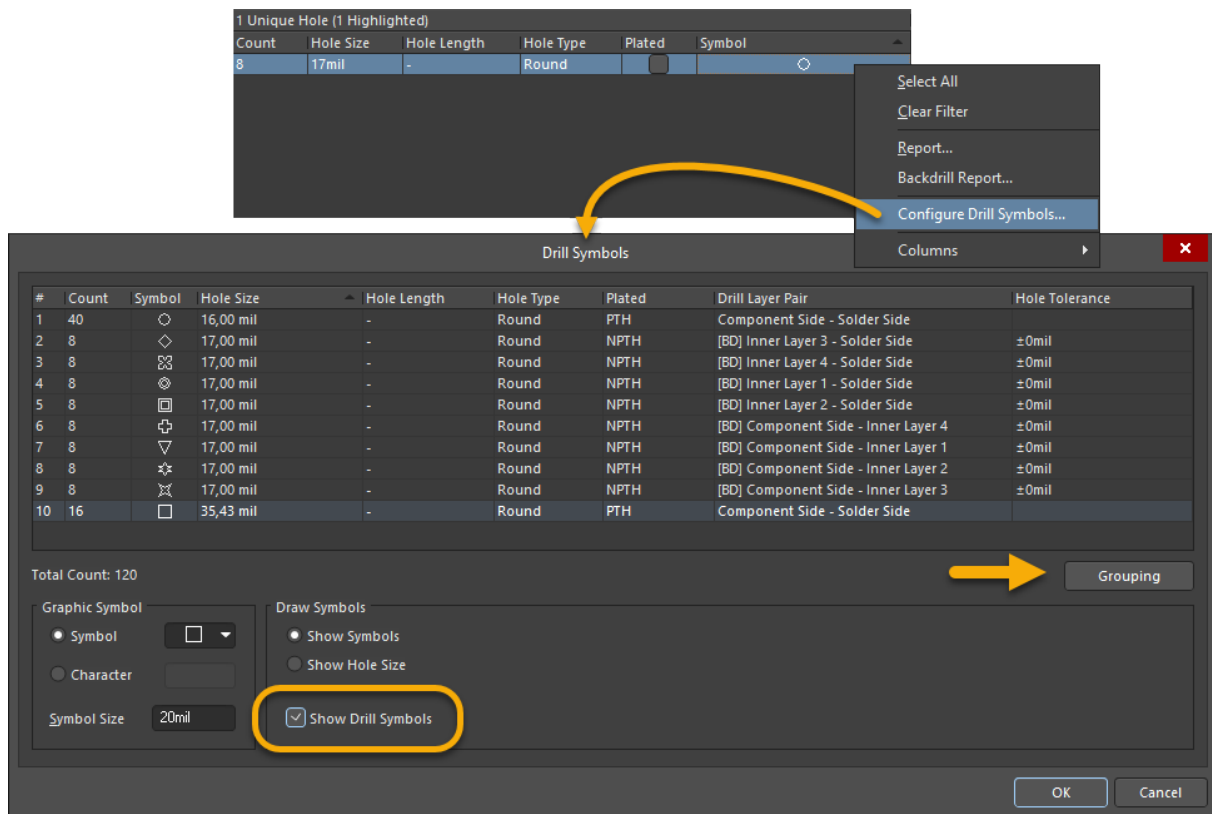

Figure 15. Open Drill Symbol configuration with option for visibility
22. Right click on the *Hole Information* pane to see and configure the **Drill Symbols**, Figure 15.